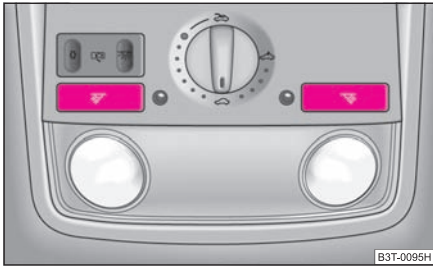
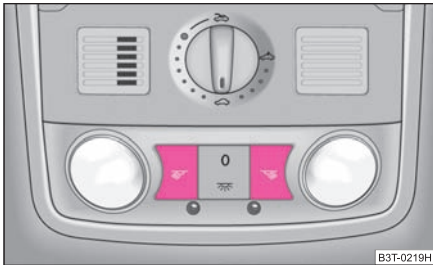

Fig. 50 Detail of the headliner: Front reading lights
Fig. 51 Detail of the headliner: Front reading lights with integrated interior monitor
- You switch on or off the reading light on the right or left by pressing the switch  ⇒ fig. 50 or ⇒ fig. 51. ■